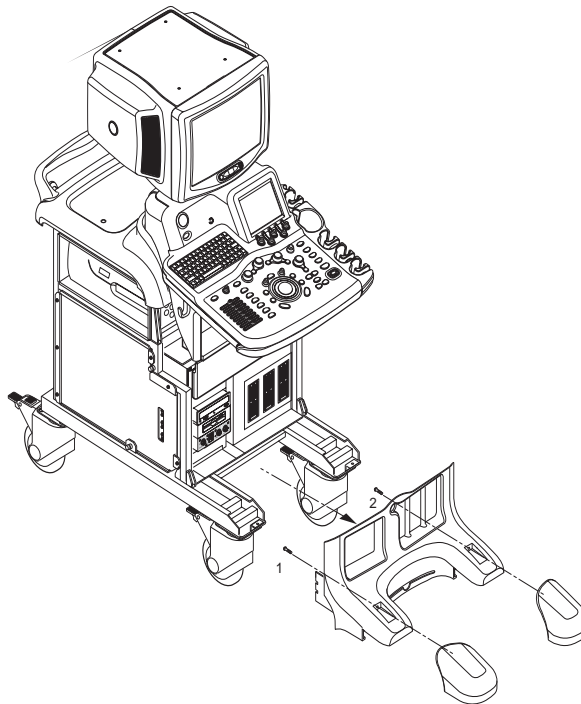

Figure 8-86 Removing the Bumper Set
- 6.) Remove the Bumper Set. Refer to Figure 8-86.